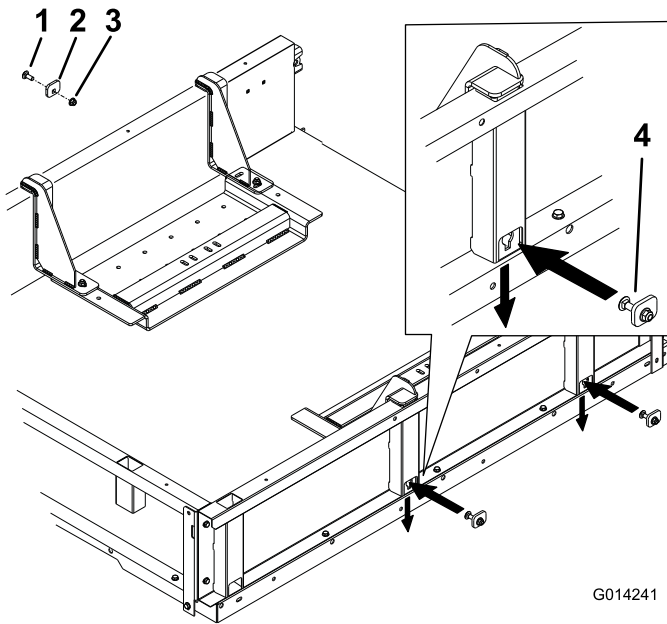

Figure 6
- Assemble the 4 carriage bolts (3/8 x 1 inch), 4 locking plates and 4 flange nuts (3/8 inch) (Figure 6).
- Secure the 4 stakes to the bed by installing the carriage bolt head into the key hole and sliding it down. Tighten the carriage bolts (Figure 6).